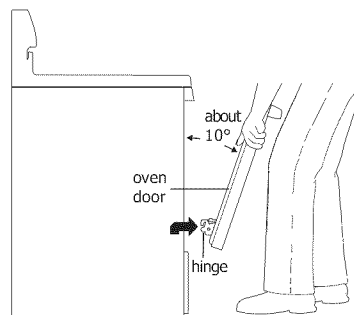

Figure 60: How to remove door
3. Firmly grasp both sides of oven door along the door sides (Do not use the oven door handle - Figure 60).
1. Firmly grasp both sides of oven door along the door sides (Do not use the oven door handle - Figure 60).